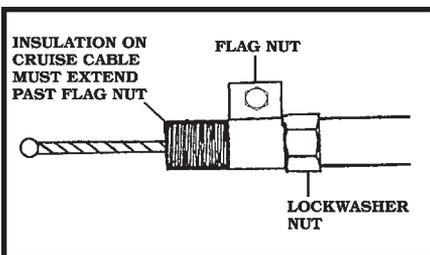

Figure 28
2. After the threads have been formed, screw the **FLAG NUT** onto the **CRUISE CABLE**. *Figure 28*